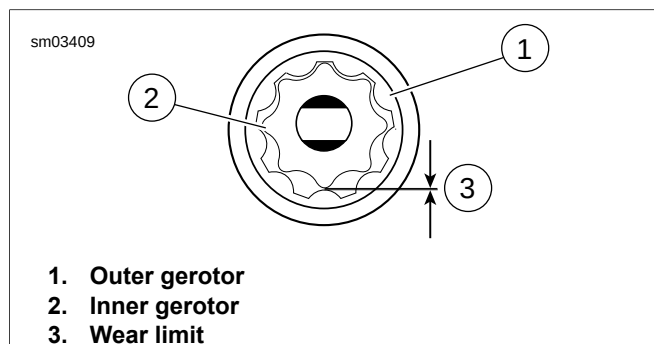

Figure 3-141. Gerotor Wear Limits
2. See Figure 3-141. Inspect both gerotor sets for wear.